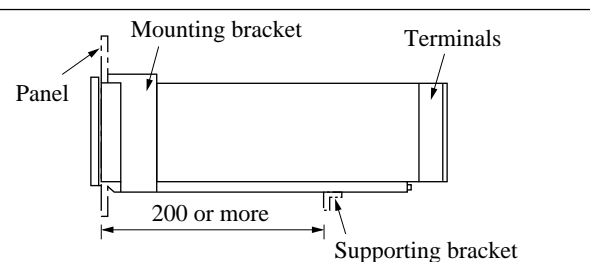

Fig. 2-1
- (1) Cut out a hole in the panel according to Panel cutout in item 2.2 "outline diagram". Since a considerable force will be applied to the panel by installing several instruments side by side in the panel, the instruments should be supported from underneath if necessary. The position for the supporting bracket is shown in Fig. 2-1.